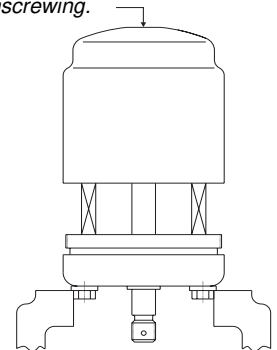

Figure 2
- 1 Insert four bolts into bonnet and clamp into vise as illustrated in Figure 2
<p style="text-align: center;">CAUTION</p> <p>To prevent injury, apply constant hand pressure and unscrew completely. Spring force will push the cylinder up when threads disengage. See Figure 2.</p>